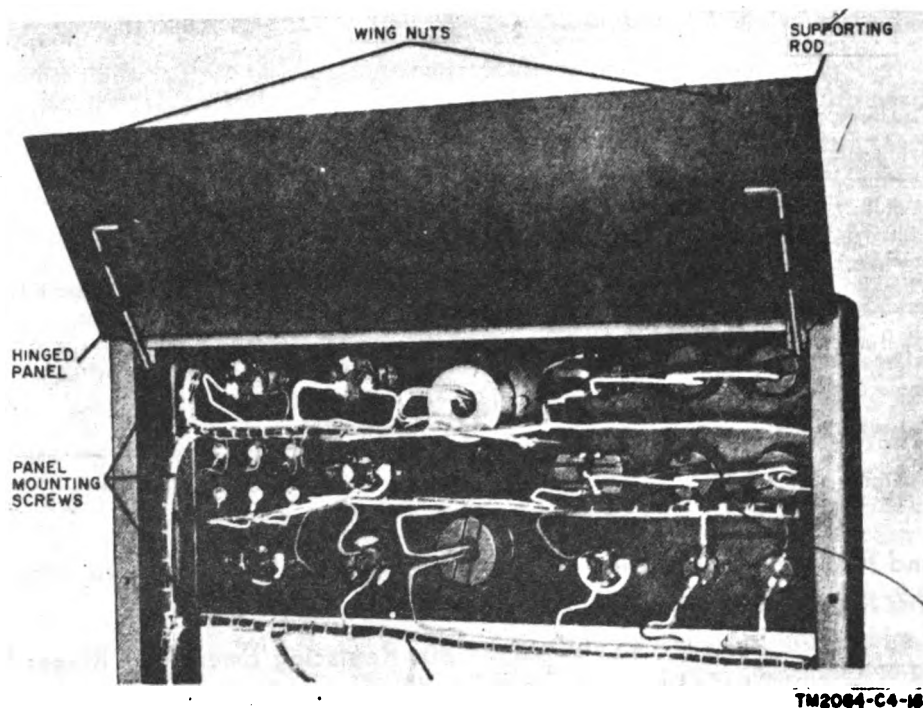

Figure 45. Rear of cord connector panel, hinged door raised.
- (a) Loosen the two wingnuts on the front of the hinged door (fig. 45).
- (a) Pull up the supporting rods (fig. 45) and lower the panel into place.